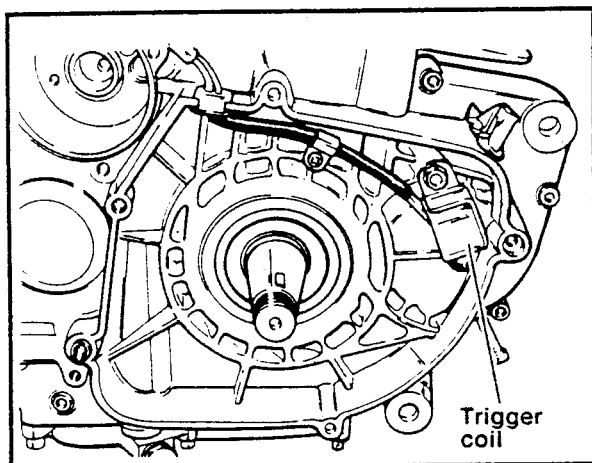

Figure 4-4. Trigger Coil Position
6. See Figure 4-4. Position the trigger coil wire as shown.